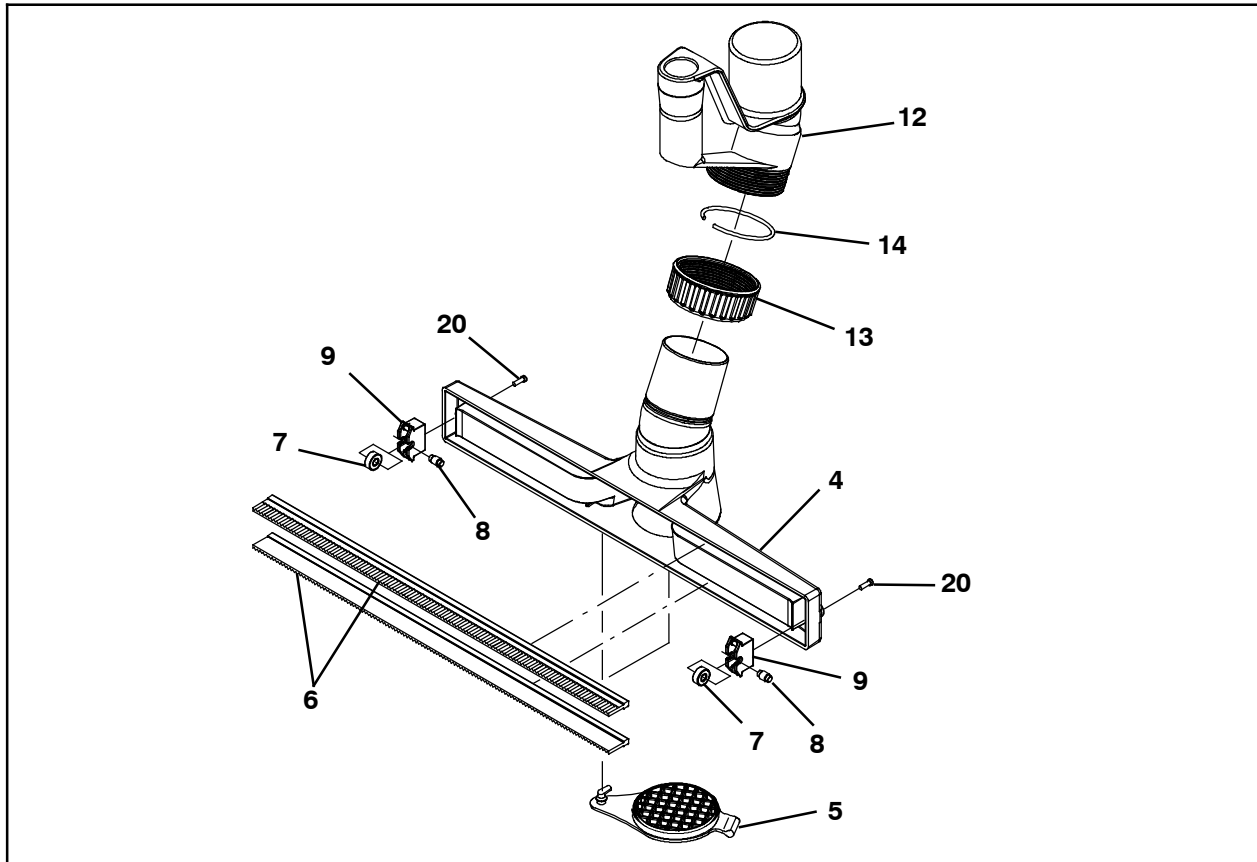

FIG. 1
1. Install the port adapter plug (5) onto the hand squeegee (4). (Fig. 1)
2. Use an axle pin (8) to install a bearing (7) into each squeegee wheel housing (9). (Fig. 1 / Fig. 2)
4. Insert each squeegee wheel housing (9) into the squeegee and use a pan screw (20) to secure each squeegee wheel housing into the hand squeegee. (Fig. 1 / Fig. 3)
3. Install both squeegee blades (6) into the hand squeegee (4). Be sure the smooth edge of each blade is oriented to the inside of the squeegee and the fluted edge to the outside of the squeegee. (Fig. 1)
5. Insert the compression ring (14) into the compression nut (13) and slide the compression nut onto the hand squeegee (4). (Fig. 1)
6. Thread the adapter swivel (12) into the compression nut (13). (Fig. 1)